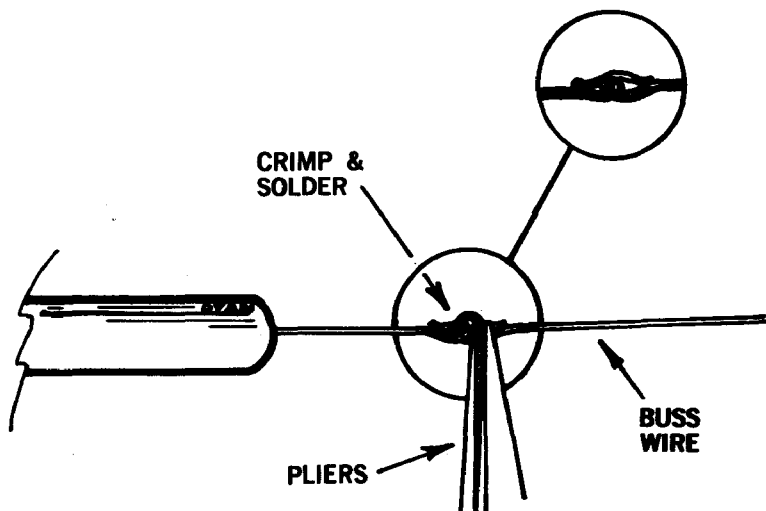

FIGURE 3
1. Cutting a wire or lead too short – If you cut the wire from one of the components too short you can easily correct it by taking a small piece of uninsulated wire (buss wire) and splicing it on as shown in Fig. 3.